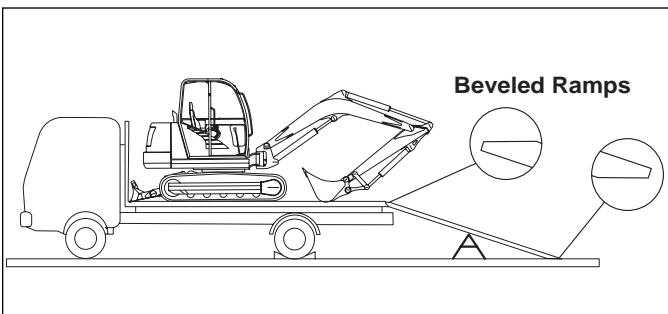

Figure 3-16. Transporting the Machine
NOTE: *The ends of the ramps should be beveled to prevent damage to the rubber tracks (Figure 3-16).*
- After the machine is on the transport machine, lower the dozer blade and the bucket onto the loading surface (Figure 3-16). Turn off the engine.